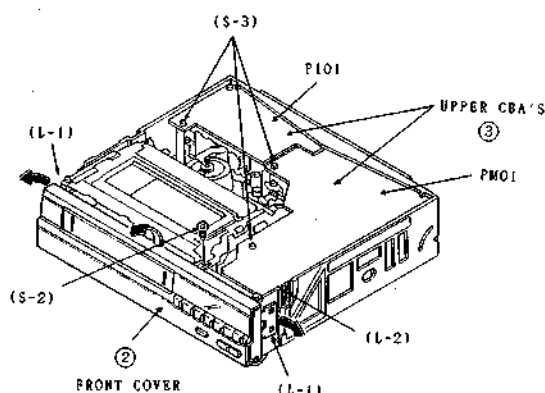

Fig. 13
- Remove the screw on the top of the front panel (Fig. 13).
- Unlock the locking tabs on the right hand and left hand side of the front cover (Fig. 13).